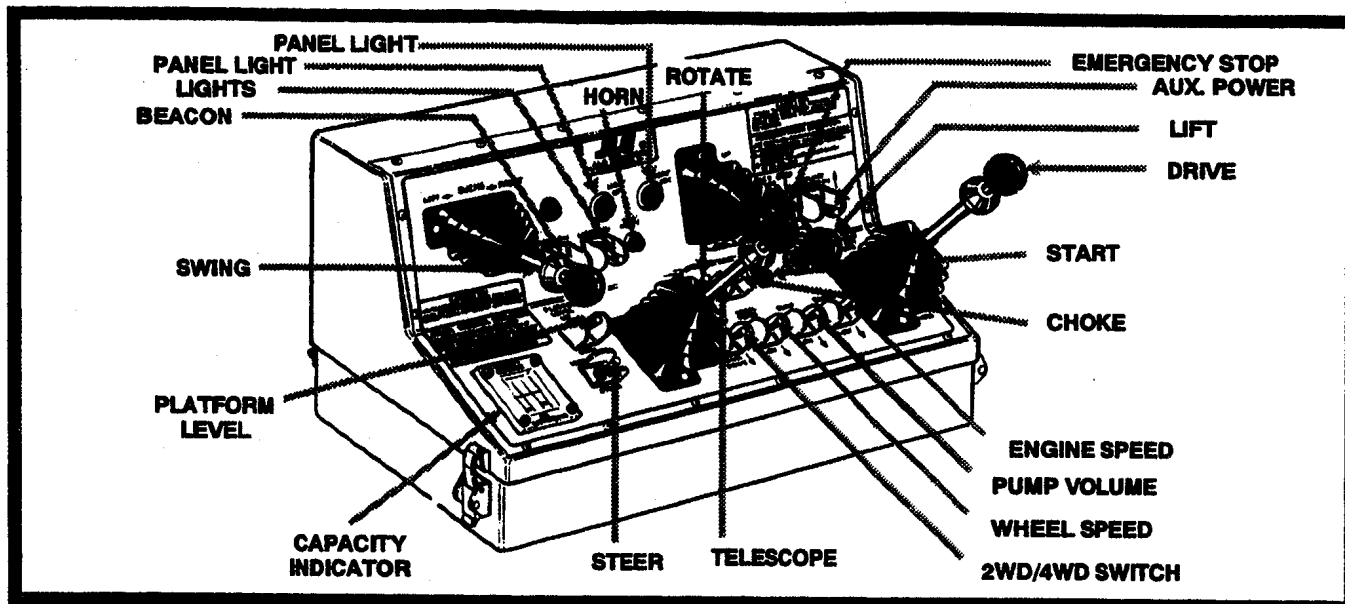

Figure 3-6. Platform Control Station.
d. Platform Station. (Figure 3-6 and 3-7).